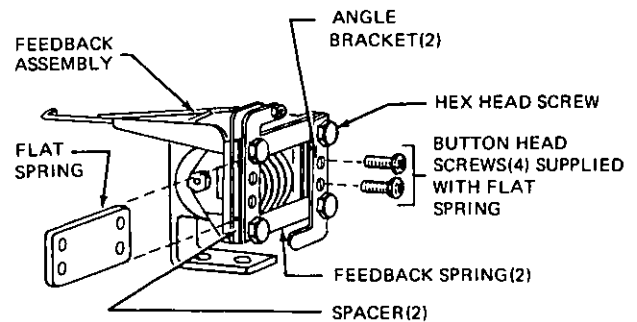

Figure 10
2. Loosen the four hex head screws (formerly button head screws) but do not remove. See Figure 10.